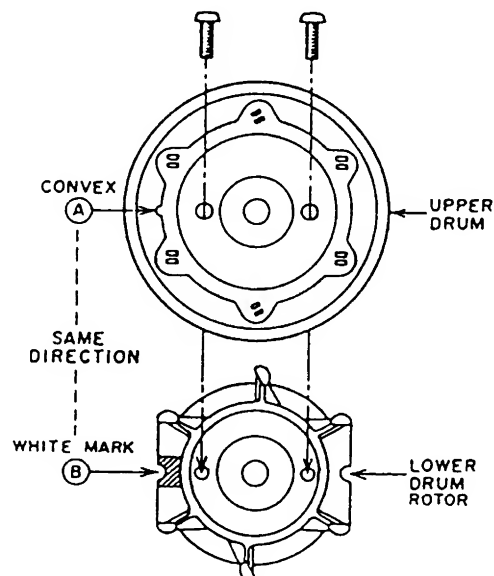

Fig. 3-20
- 1) Attach the UPPER DRUM to the LOWER DRUM ROTOR so that the upper drum convex (A) and lower drum rotor's white mark are in the same direction as shown in Fig. 3-20.